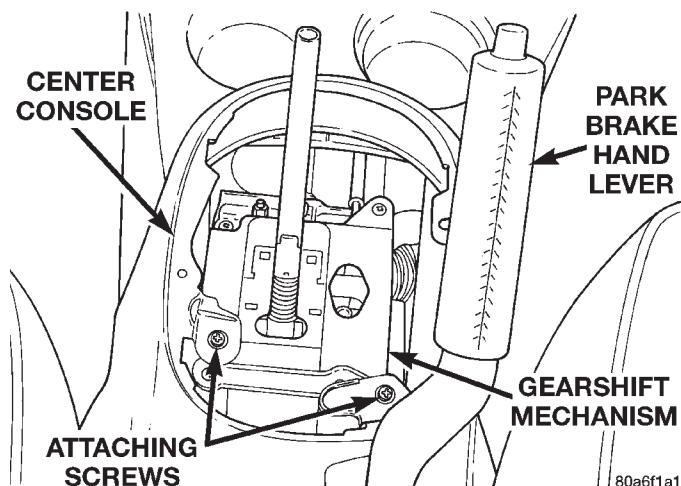

**Fig. 132 Center Console Front Attaching Screw**
(3) Remove the 2 screws (Fig. 132) attaching the center console to the shifter.
(22) Install the 2 screws attaching the front of the center console to the shifter (Fig. 132). Install the screw hole garnish cap and the PRNDL strip on the center console.